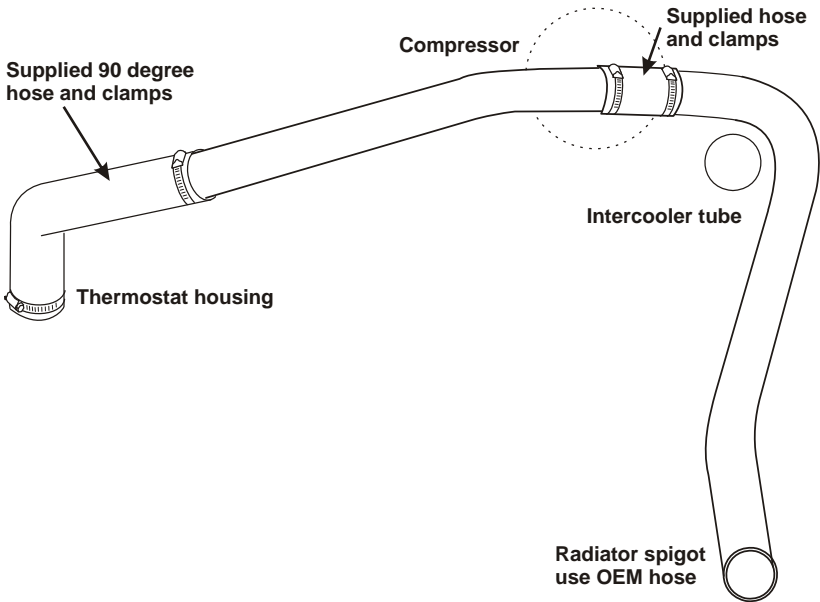

Figure 3.8
- Install the supplied steel coolant pipes and flex hoses onto the lower hose, around the outside of the intercooler connection, over the top of the fan shroud and to the thermostat housing (Figure 3.8 - viewed from the front of the engine).